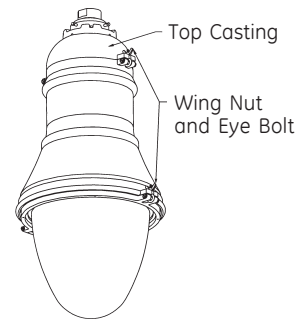

Figure 6
1. Open the top casting by loosening top wing nut, swing eye bolt out of mounting slot and rotate top casting open. See Figure 6.
1. Open globe by loosening lower wing nut, swinging eyebolt out of mounting slot and rotate door ring open. See Figure 6.